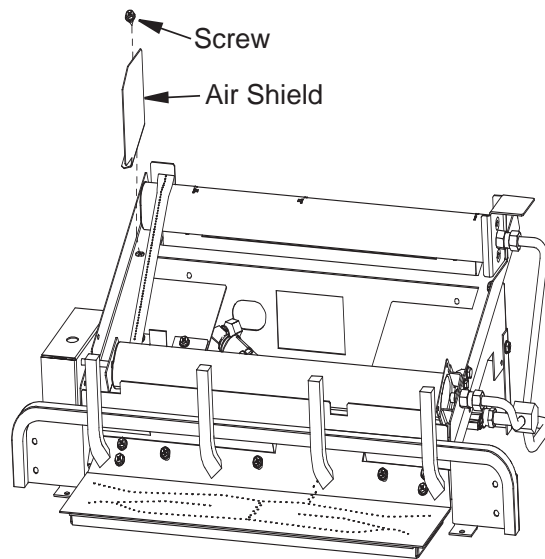

Figure 23 - Removing Air Shield
1. Before placing any logs on the chassis you will need to remove the Air Shield located on the left side near the rear burner as shown in **Figure 23**. The Air Shield is held in place with one screw, remove the Air Shield and place the screw back into the hole in the chassis. Place the Air Shield with your owner's manual and keep.